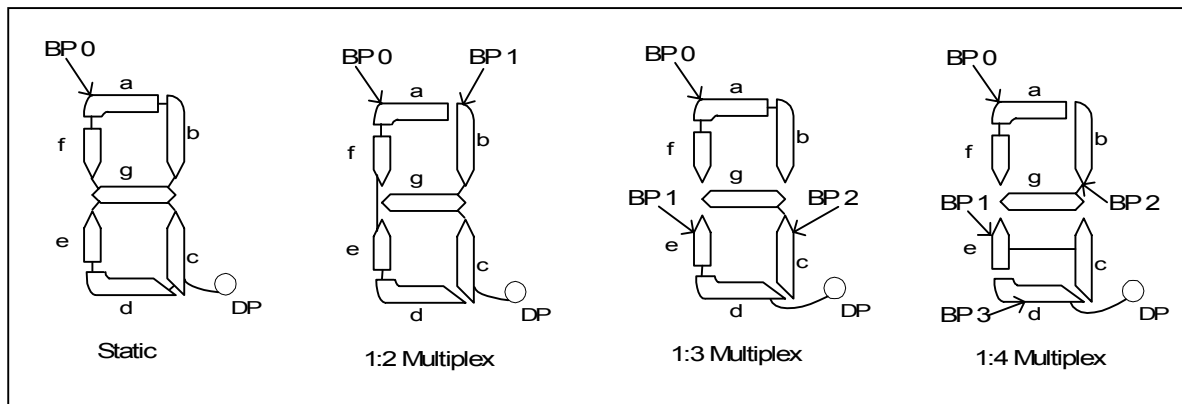

FIGURE 19: BACKPLANE OUTPUTS PER LCD DIGIT
Each byte in the register defines a seven-segment digit and decimal point (DP). Each bit of a register address corresponds to a segment of each digit, as shown in Figure 19. When the bit is set to **1**, it is on. When it is set to **0**, it is off. Figure 19 also shows the backplane outputs per LCD digit for each multiplex drive ratio.